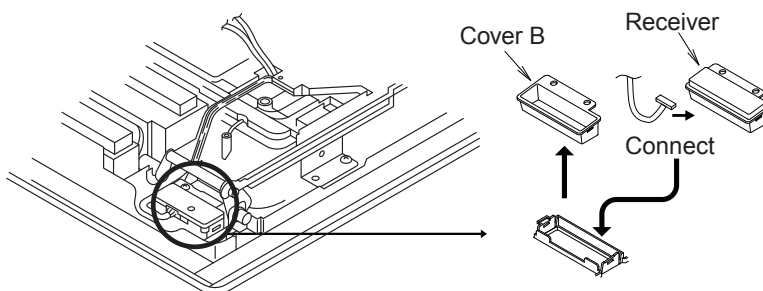

Fig. 3-2-9
- The cover B is fitted in the cover A. Remove the 1 screw and detach it by pressing on it from the front side of the panel. (Fig. 3-2-9)
- Bend the lead wire of the receiver into shape so that it does not come in contact with the louver shaft. There is a groove to pass the wire (circled part in Fig. 3-2-9) Insert the lead wire into this groove with no slack.